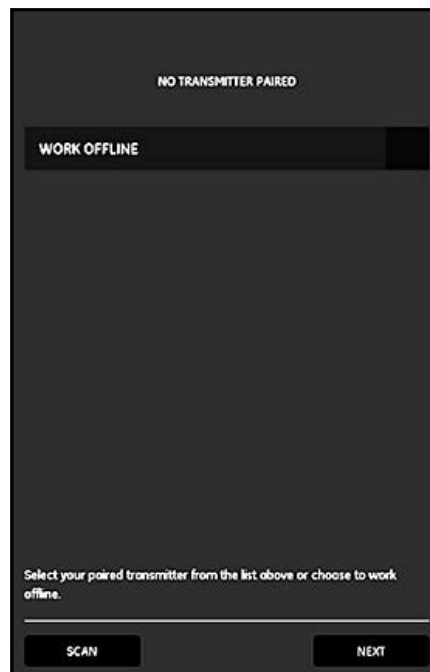

Figure 62: Initial Transmitter List
6. After the APP finishes loading, the default Transmitter list is displayed. During initial installation, this list is empty (see *Figure 62* below).